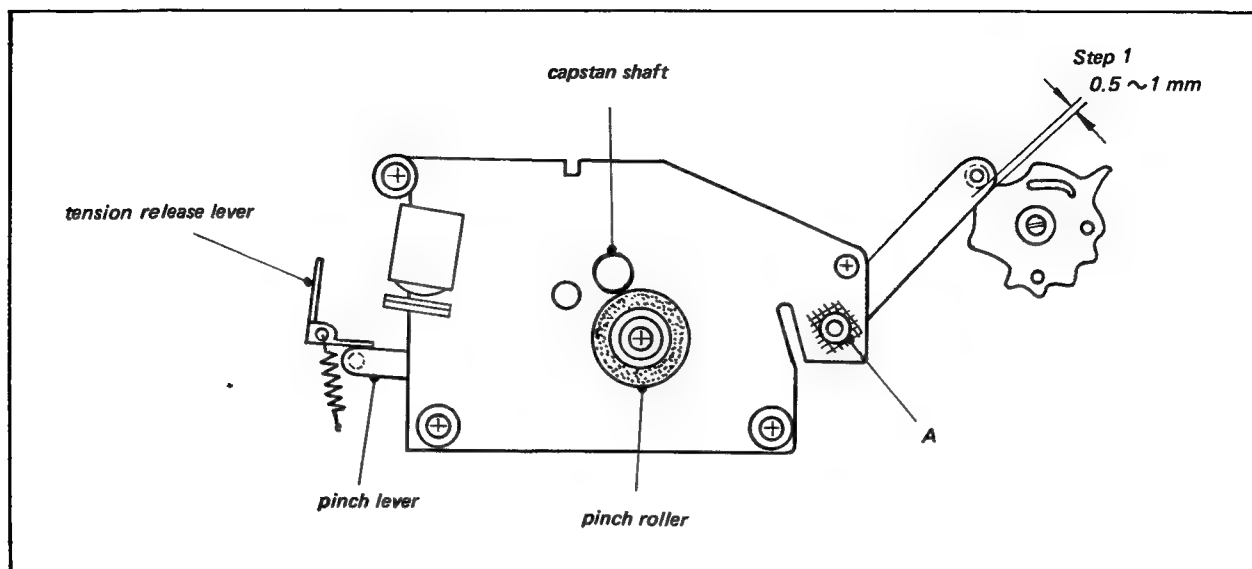
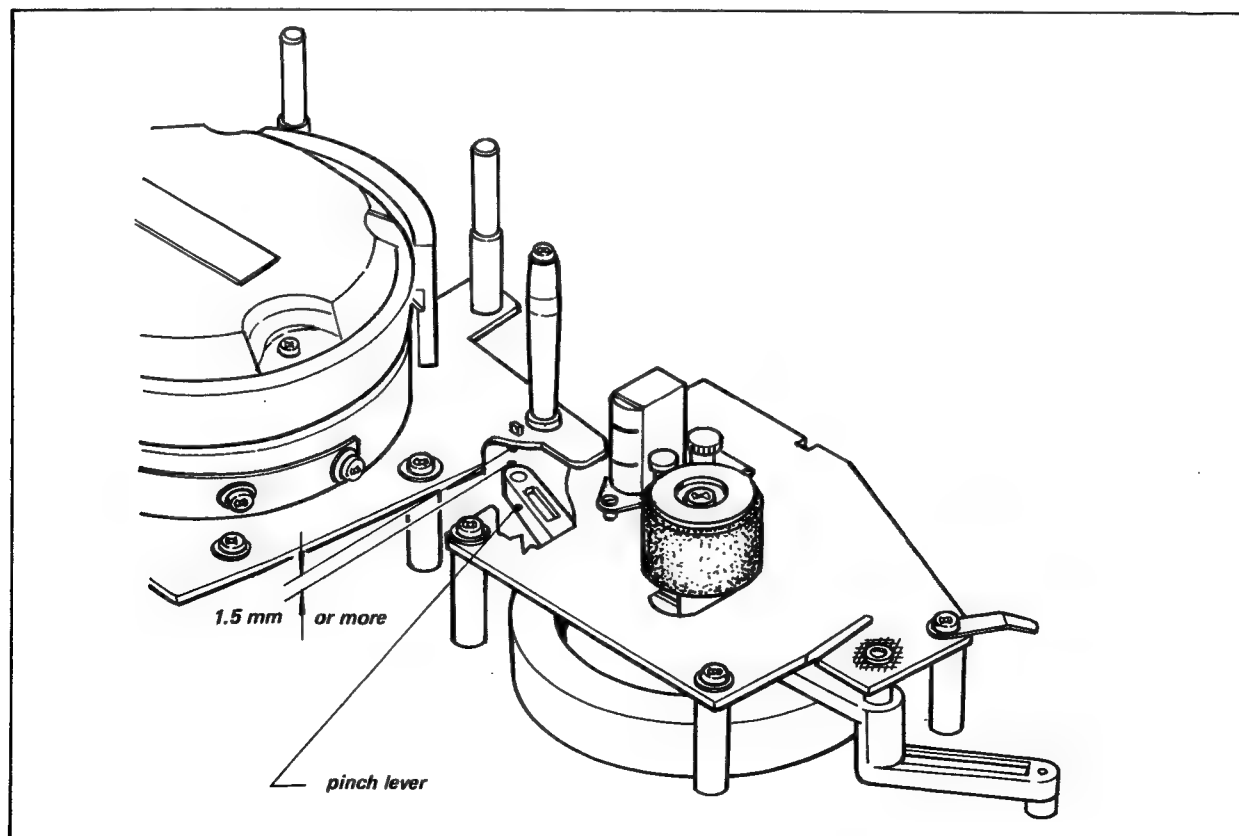
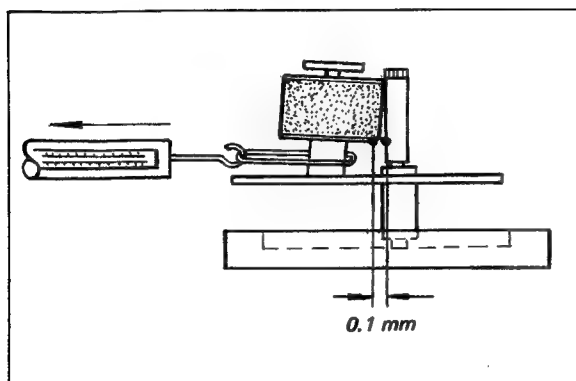

Fig. 4-21. Capstan deck adjustment
Fig. 4-23. Pinch lever adjustment
Fig. 4-24. Pinch roller adjustment
17. Put the Capstan Deck Assembly with Flywheel on the four posts of the chassis. Position the Pinch Lever with relation to Tension Release Lever as shown in Fig. 4-21.
1. Set the Function Lever to FORWARD. Check that the clearance between the Pinch Lever and the Function Selector Cam is 0.5 to 1 mm. If necessary, readjust the position of the Capstan Deck Assembly. See Fig. 4-21.
3. Set the Function Lever to FORWARD. Check that the clearance between the upper end of the Pinch Lever and the lower end of the Drum Mounting Deck is more than 1.5 mm. See Fig. 4-23. If it needs adjustment, bend "A" in Fig. 4-21. with a pair of pliers. Recheck Pinch Roller Pressure as described in Section 4-18.
1. Set the Function Lever to FORWARD. Check for 0.1 mm clearance between the lower end of the Pinch Roller and the Capstan Shaft when the upper end of the Pinch Roller contacts the Capstan Shaft. See Fig. 4-24. Bend "A" in Fig. 4-21 with a pair of pliers as needed to obtain the correct spacing.
2. Place the Function Lever in the FORWARD position. Make a loop in a piece of string and attach the spring scale around the base of the Pinch Roller Shaft. See Fig. 4-24. Pull the scale in the direction indicated by the arrow. Check the reading when the Pinch Roller just leaves the Capstan Shaft. It should be between 1.5 and 2.2 kg.